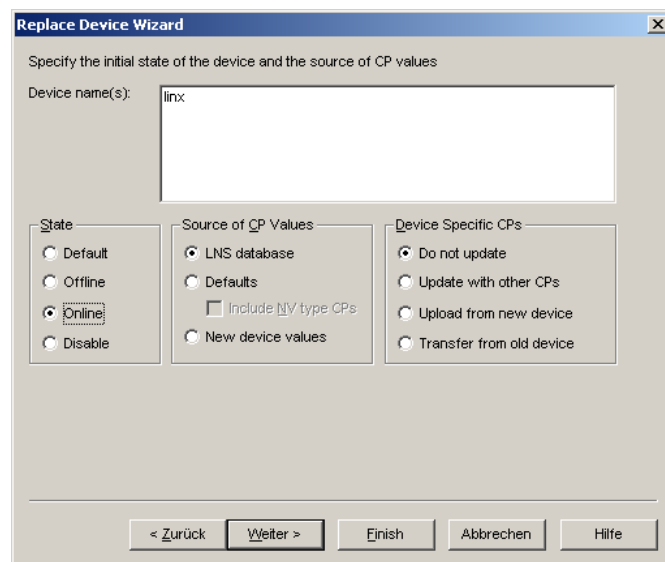

Figure 164: Select online state.
- Then select **Online** as shown in Figure 164 and click **Next**.